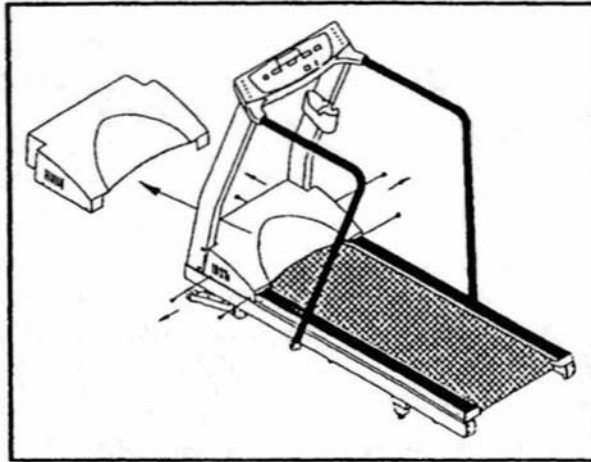

Fig.1
1. Remove the motor shroud.. (see Fig.1)